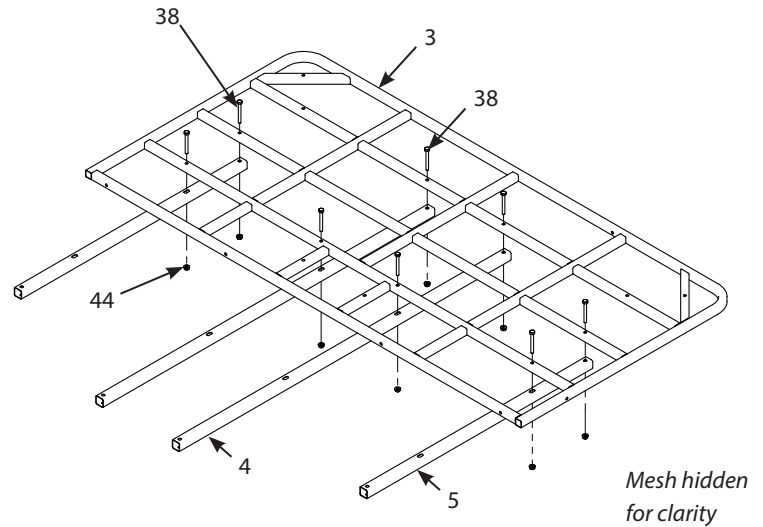

FIGURE 1
1. Attach the two long platform braces (4) to the bottom of the rear platform (3) using two 1/4-20 X 2-1/4 IN bolts (38) and 1/4-20 nuts (44) for each brace. **SEE FIGURE 1.**
Attach the two short platform braces (5) to the bottom of the rear platform (3) using two 1/4-20 X 2-1/4 IN bolts (38) and 1/4-20 nuts (44) for each brace. **SEE FIGURE 1.**